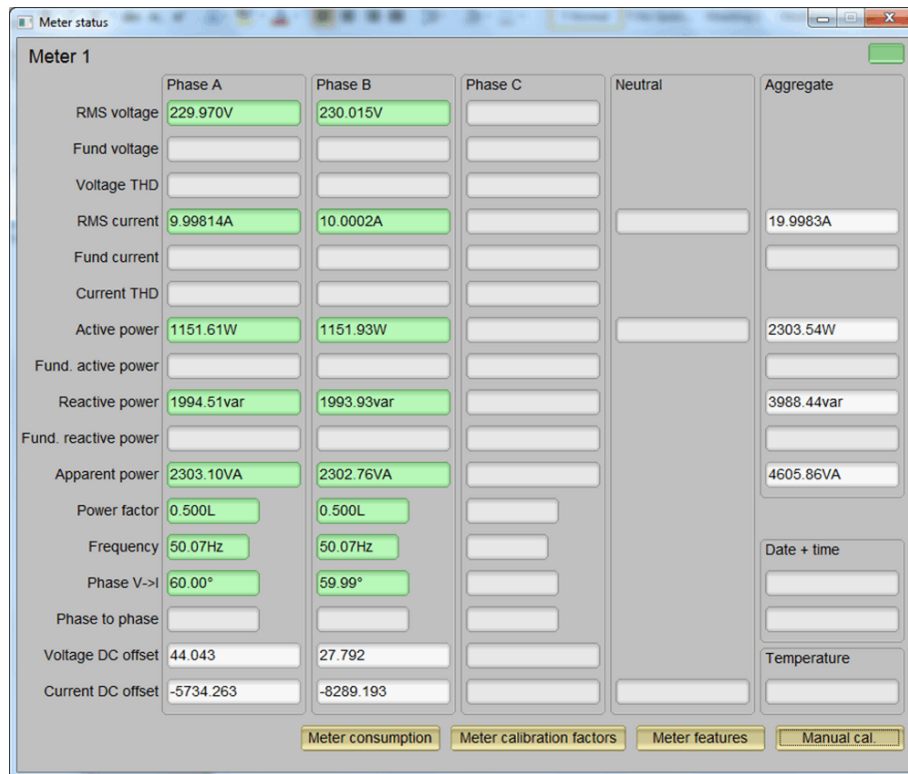
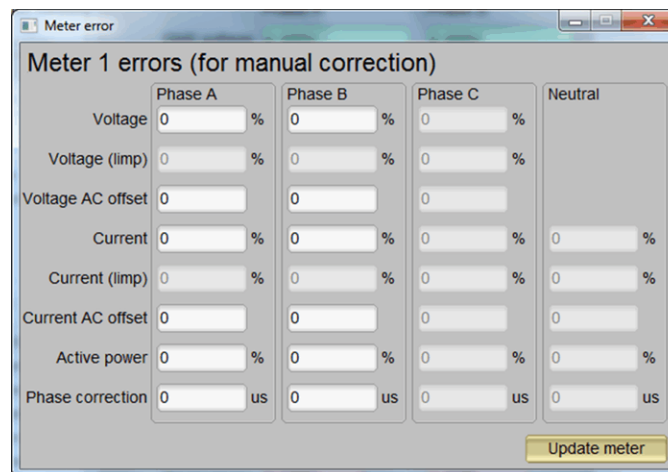

Figure 28. Results Window
Figure 31. Manual Calibration Window
Click on the green button to open the results window (see Figure 28). The Power factor values have a trailing "L" or "C" to indicate an inductive or capacitive load, respectively.
3. Click the "Manual cal." button in the Results window (see Figure 28) to open the window shown Figure 31.